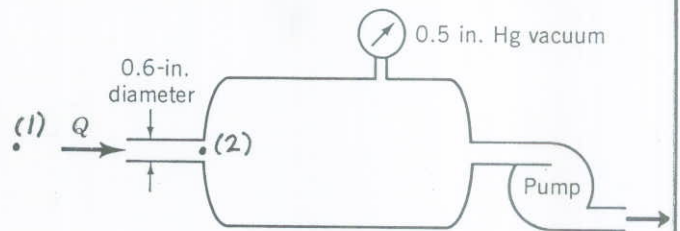

FIGURE P3.74
3.74 Air at 80 °F and 14.7 psia flows into the tank shown in Fig. P3.74. Determine the flowrate in ft3/s, lb/s, and slugs/s. Assume incompressible flow.